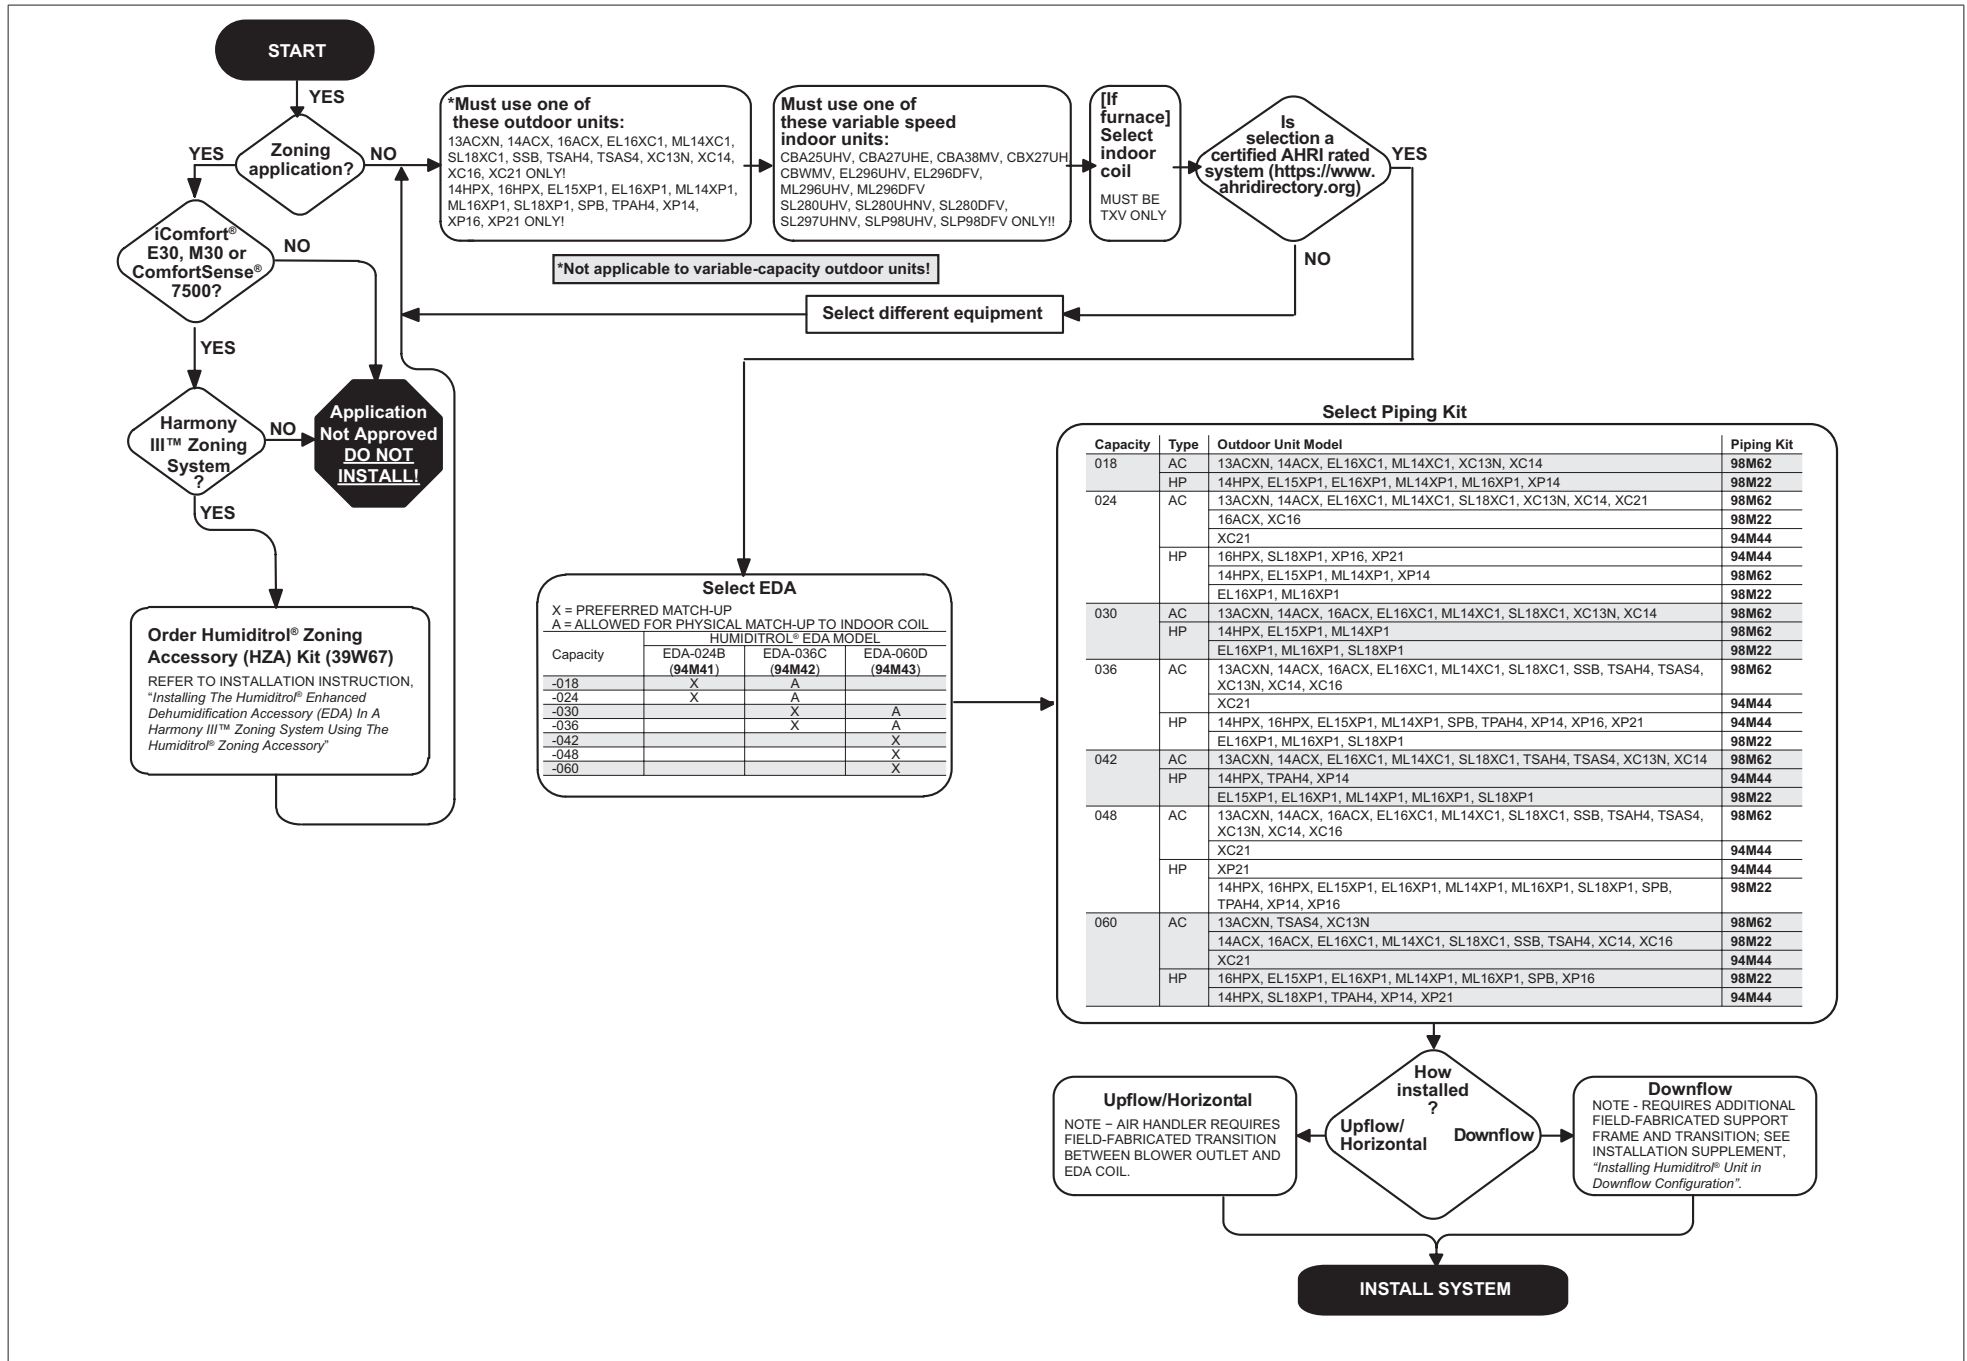

Figure 1. Decision Tree
Humiditrol Insulation and Piping Kit (refer to “Figure 1. Decision Tree” on page 5).
- Prior to installation, study the decision tree (see “Figure 1. Decision Tree” on page 5) to confirm that all application requirements for Humiditrol installation are met.
Before beginning installation, be sure the HVAC system components are compatible with the Humiditrol. See “Figure 1. Decision Tree” on page 5 for the system decision tree that describes compatible components of the system. One of the following thermostats is required for the Humiditrol system: